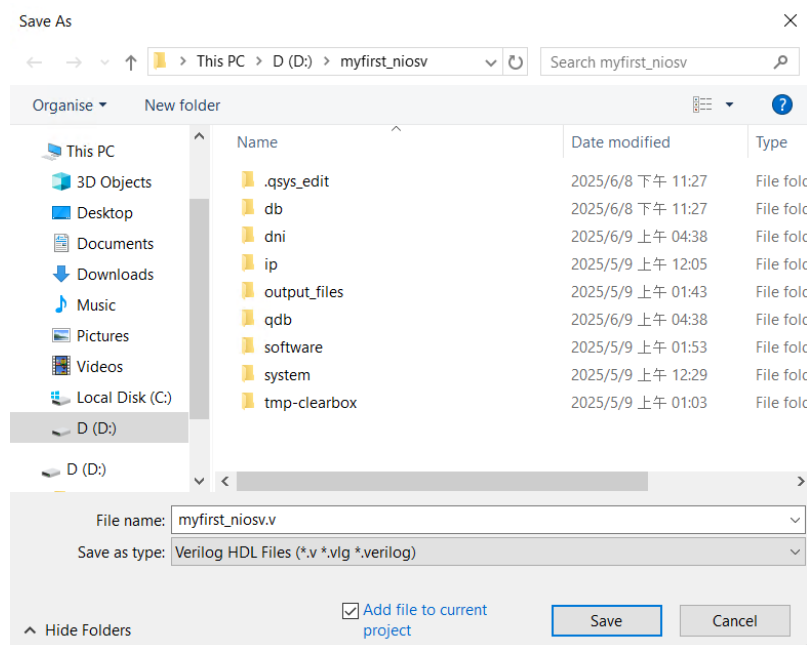

Figure 2-35 Save Verilog file
4. Choose **Save** Icon in the tool bar. There will appear a window as shown in Figure 2-35. Make sure the file name is **myfirst_niosv.v** and click **Save**.